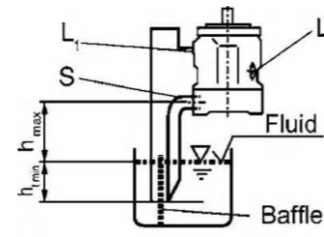

Fig. 2
b) If the minimum fluid level is below the pump mounting face pipe port "L1" and "S" according to Fig. 2. Close port "L" with respect taking into consideration
Before installation fill the pump housing, keeping it in a horizontal position. For mounting above reservoir see Fig. 2. Limiting condition: